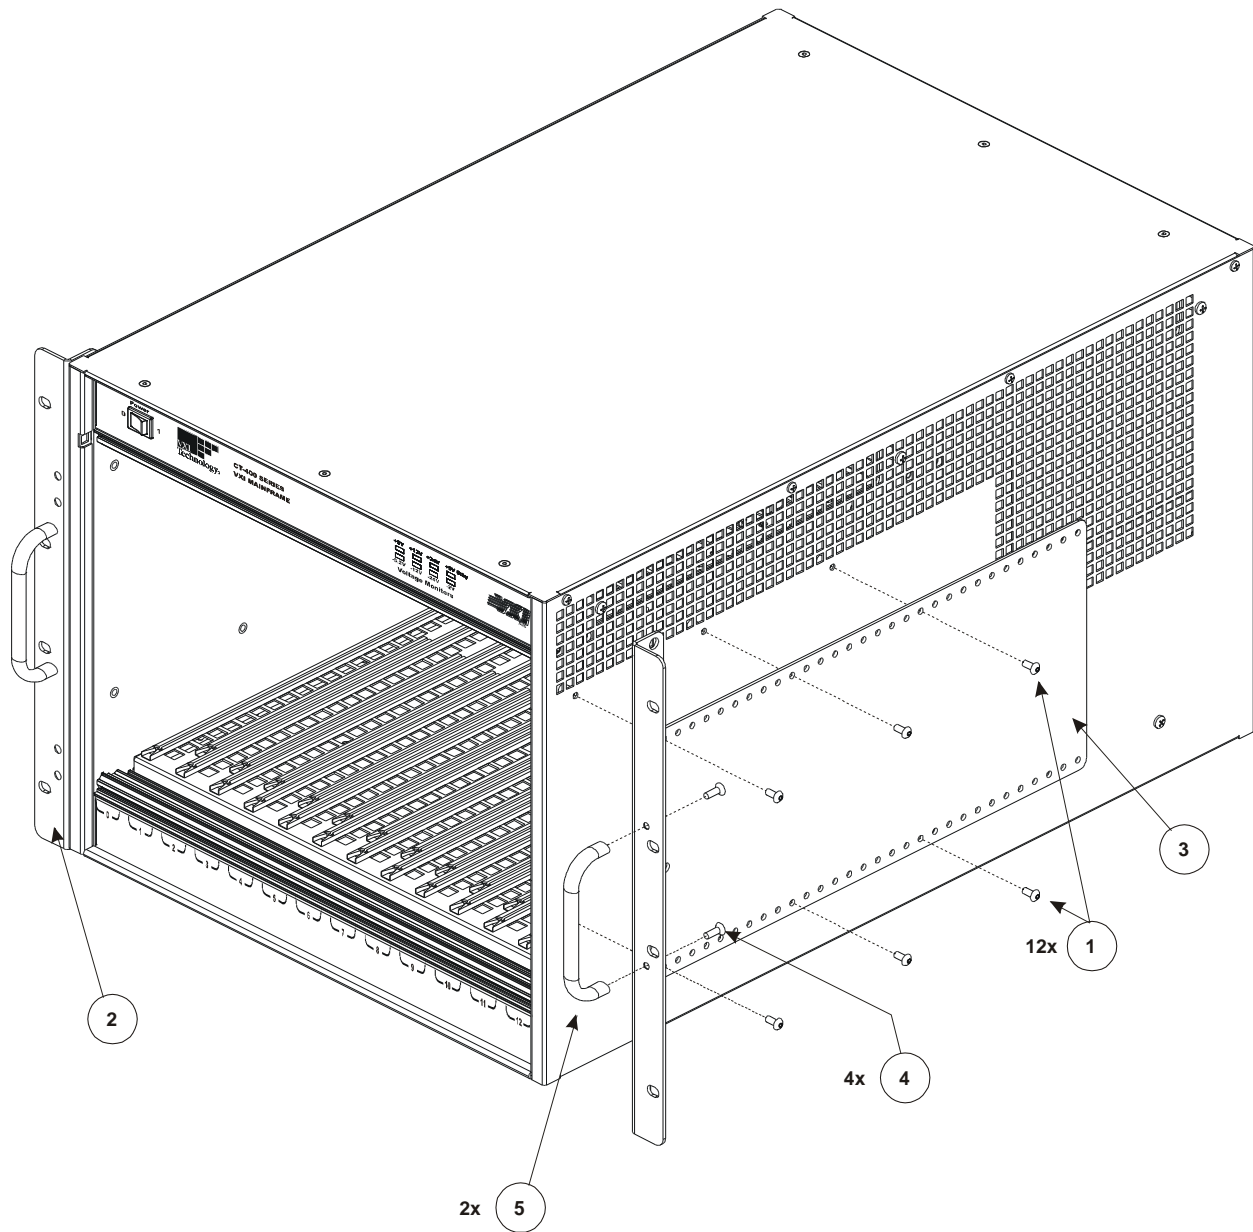

FIGURE 2-3: ADJUSTABLE RACK MOUNT FLANGE INSTALLATION DIAGRAM
- 2) Locate the right and left side rack mount brackets. Install the rack mount brackets using twelve 8-32 x 5/8" button head Torx screws. Refer to Figure 2-3 for guidance. Depending on how the rack mount brackets are installed, the mainframe can be recessed up to 10" or can be extended from the rack up to 5".
- 3) Locate the handles for the rack mount brackets. Use the 8-32 x 3/8" flat head Phillips screws to install these handles as shown in Figure 2-3.